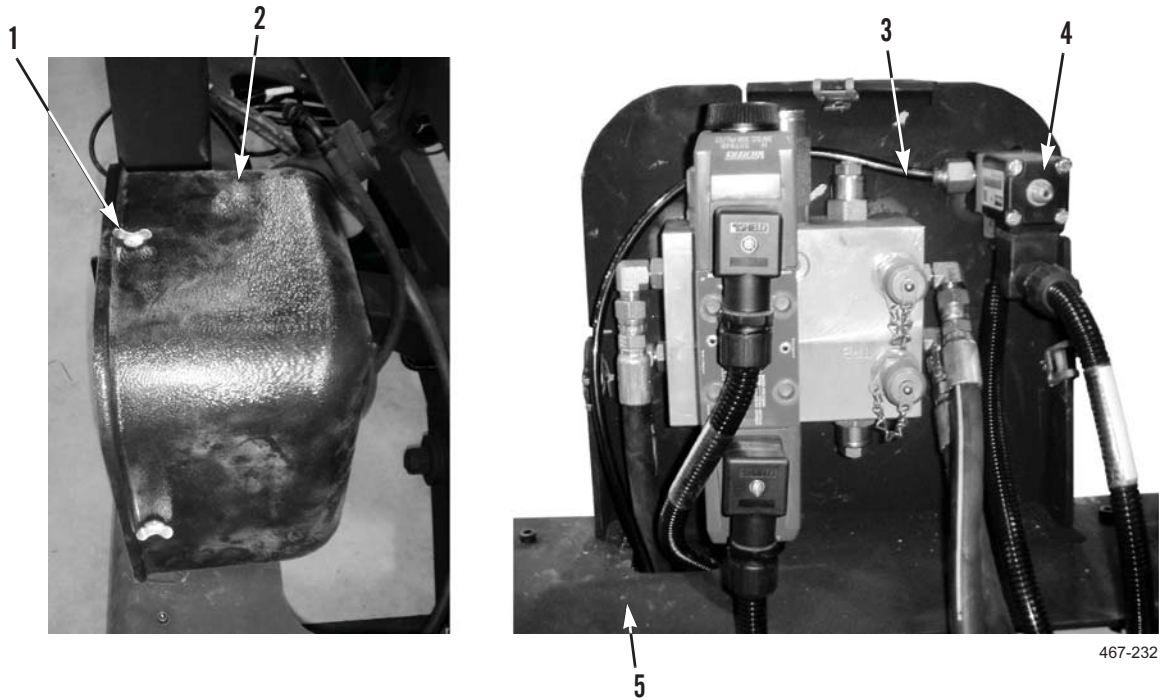

Figure 31. Routing Stowage Assembly Air Hose.
23. Route air hose (Figure 31, Item 3) from solenoid valve (Figure 31, Item 4) on stowage assembly (Figure 31, Item 5) to air tank underneath vehicle.
24. Install manifold cover (Figure 31, Item 2) on stowage assembly (Figure 31, Item 5) and secure three locking pins (Figure 31, Item 1).